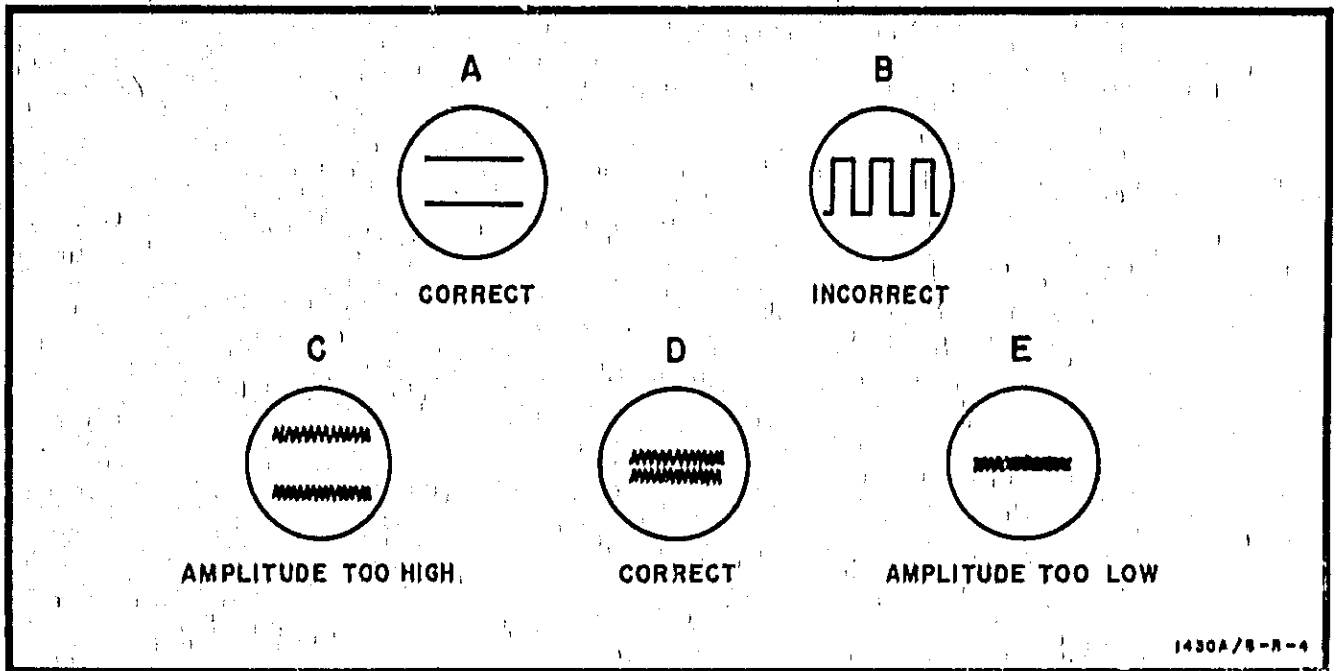

Figure 5-4. Noise Measurement Display
- g. Adjust SCAN DENSITY for incoherent display with minimum flicker. Display should consist of two lines, approximately 1 div apart. If display consists of square wave moving across CRT as shown in figure 5-4 part b, readjust SCAN DENSITY to obtain display as shown in figure 5-4, part a.
- h. Decrease pulse generator amplitude until dark band is just visible between two lines (two lines just converge into one). See figure 5-4 parts c, d, and e.